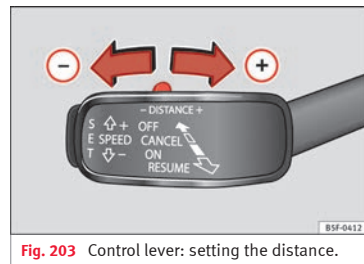

Fig. 203 Control lever: setting the distance.
- To display the distance currently programmed, briefly press the rocking button » Fig. 203.